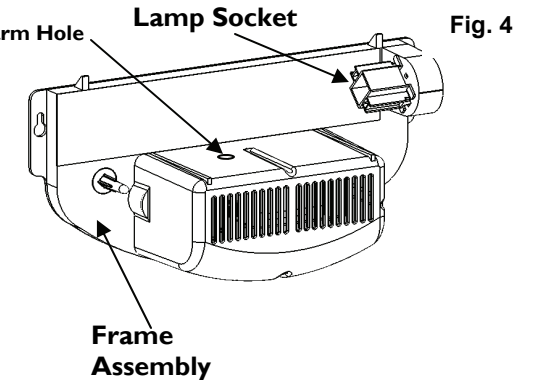

Fig. 4
3. Insert new lamp and firmly snap-in socket (see page 5, Fig. 4 & 5).
1. Remove the ultraviolet lamp from the box. Insert the lamp into the lamp socket by aligning the pins of the lamp with the light socket and snap in firmly. (Fig. 4 & 5) **NOTE:** It is recommended to replace the ultraviolet lamp every **eight months** of use to maintain optimum performance of the unit. After this time the lamp may still light but is no longer emitting enough of the special UV light frequency required for an effective insect catch.
The Paraclype Fly Patrol™ has an out of paper sensor that emits an audible beep when it is time to replace the cartridge. The alarm is triggered when the paper no longer covers the alarm hole in the top of the motor enclosure. ( see Fig. 4)